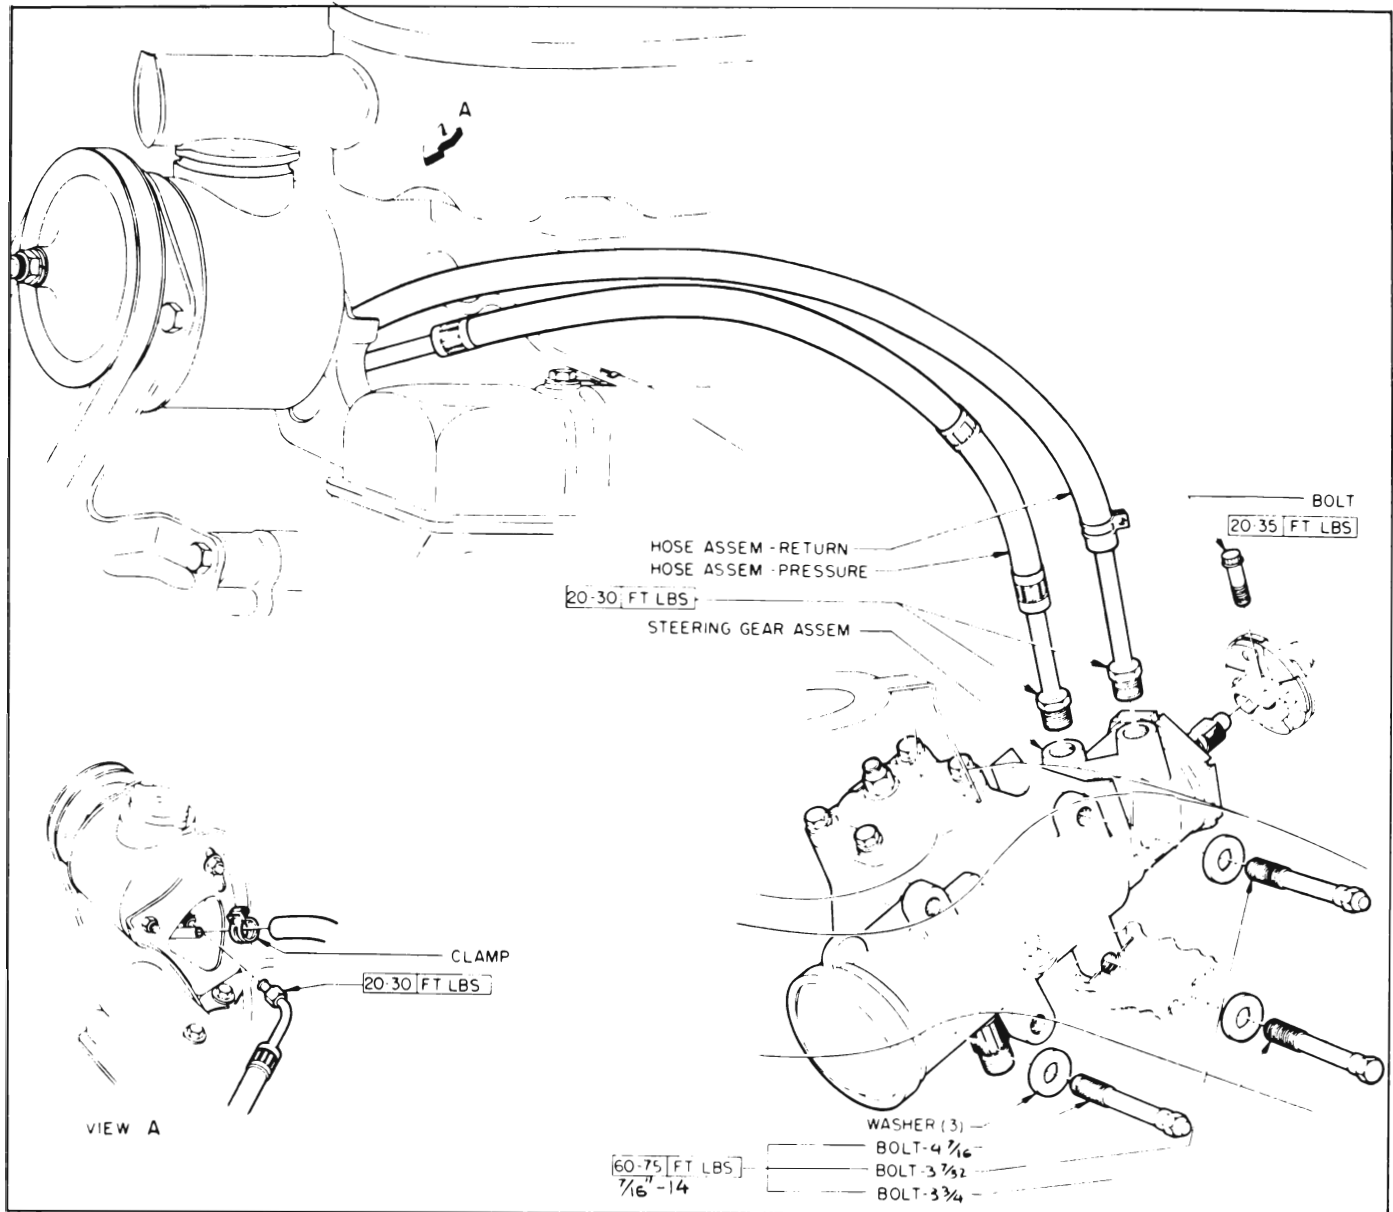

Figure 8-26—Power Steering Installation
3. Remove pinch bolt from coupling lower flange. See Figure 8-26.
1. Install the gear assembly by reversing the procedure for removal. See Figure 8-26 for tightening specifications.